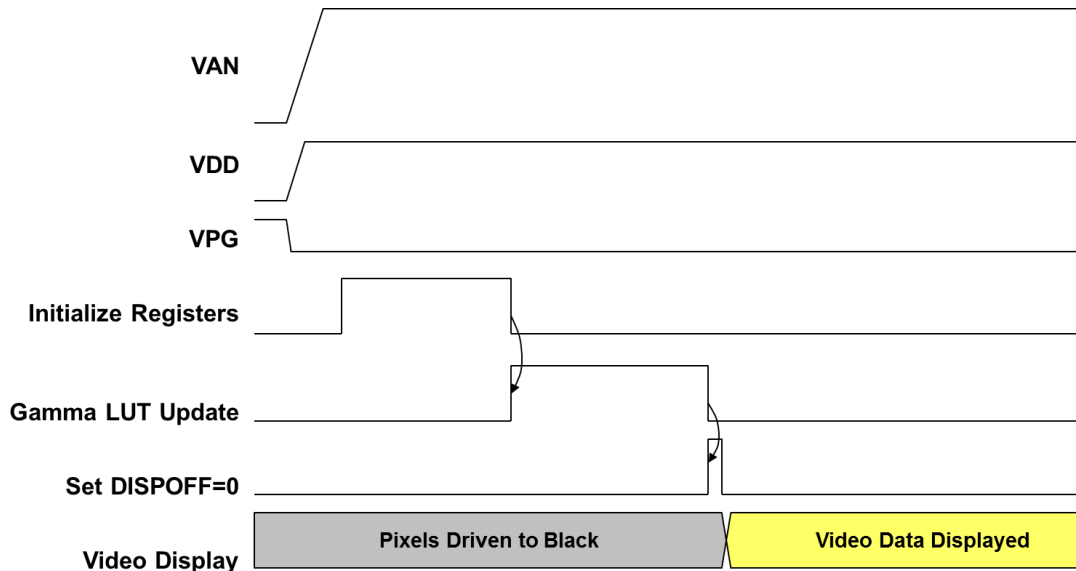
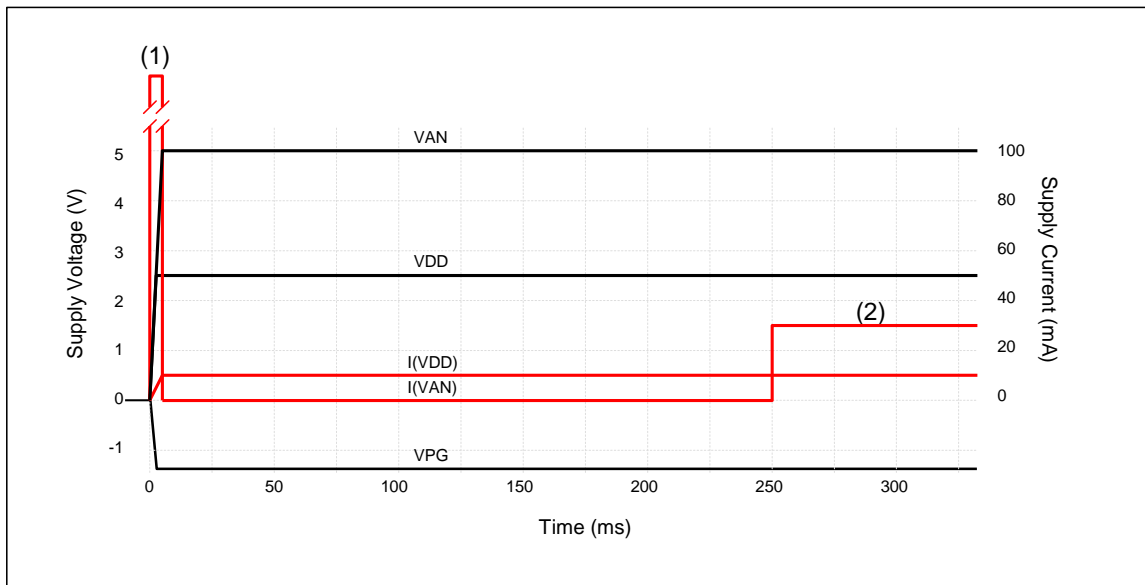

Figure 26 : Power-On sequence for supplies and control.
Figure 27: Typical startup currents
To ensure proper startup and stabilization of the display the power-on sequence shown in the timing diagram of Figure 26 is recommended.
The currents supplied during a typical startup operation are illustrated in Figure 27. An inrush current (1) occurs on the 5V supply line during the initial moments of the ramp up phase (this is about 1A peak for a 100usec ramp time). Typically, using the startup procedure illustrated in Figure 26 the image will become active about 250 msecs after power is applied. The current drawn from the 5V supply during normal operation (2) depends on the operating luminance.